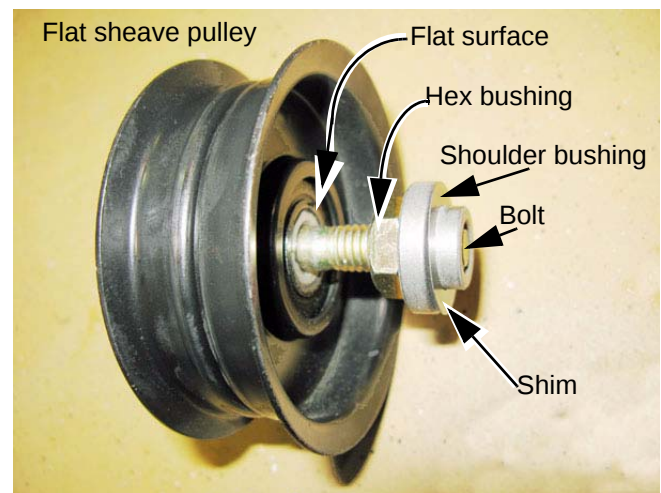

Figure 6.56
- When installed, the spacers fit against the flat side of the flat sheave idler pulley. See Figure 6.56.